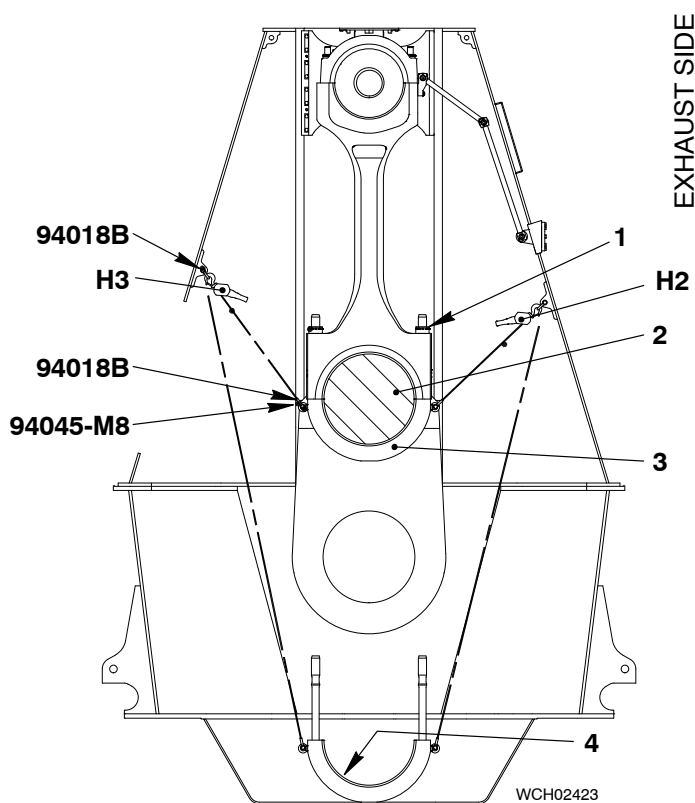

Fig. 1
- 1) Operate the turning gear to turn the crankshaft until the applicable crank (2, Fig. 1) is at TDC.
- 3) Attach the eye bolts (94045-M8) to the bearing cover (3).
- 5) Attach the manual ratchets (H2, H3) to the shackles (9418B) and the eye bolts on the bearing cover (3).